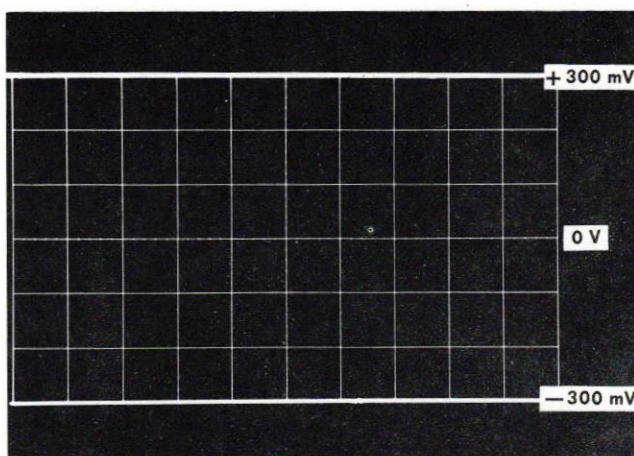

Fig. 5-2. Positioning range of OUTPUT DC LEVEL with test oscilloscope set to 0.1 V/cm.
- Rotate the OUTPUT DC LEVEL control throughout its range and check for a positioning range of at least + and -3 centimeters ( $\geq$  + and -300 mV at the probe amplifier output). See Fig. 5-2.